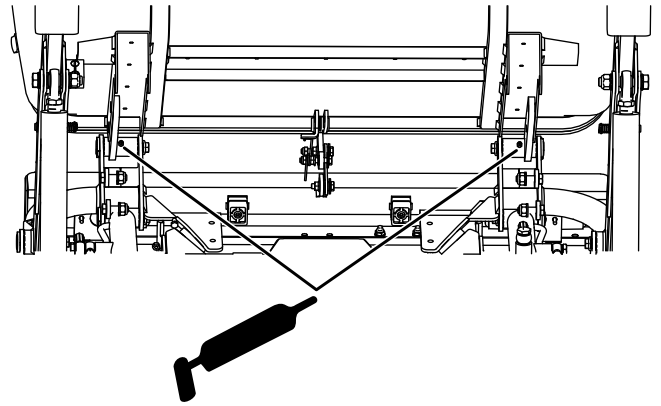

Figure 50
- Hopper pivots under the hopper (Figure 50)